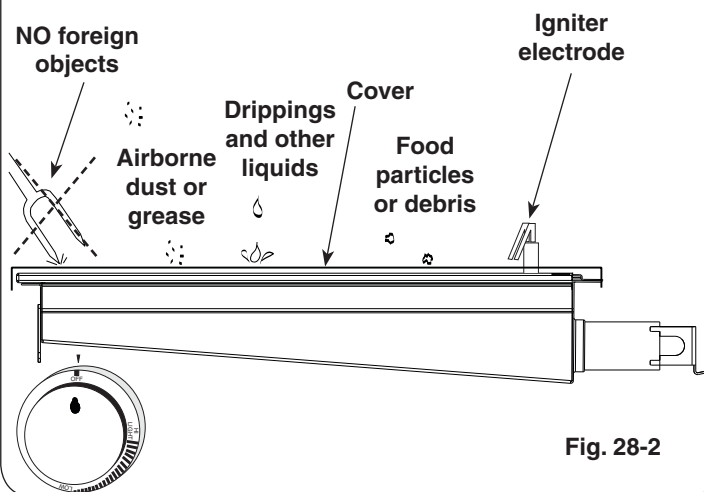

Fig. 28-2
- When not in use, **always** cover the infrared burner with the stainless-steel cover. This protects the burner from drippings (from other cooking), water, airborne particles, and foreign objects (Fig. 28-2).
- Do not strike or scrape the ceramic portion of the burner as it may chip, crack, or break (Fig. 28-2).